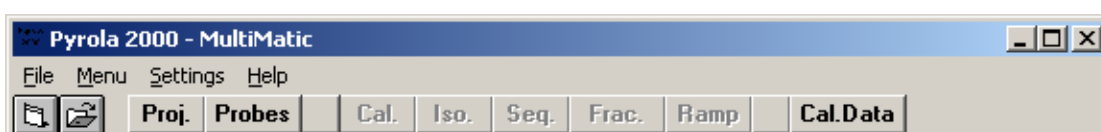

Figure 4-1. Main application toolbar.
2. Press the Probes button in the main application toolbar in order to open the Probes window, see Figure 4-1.
2. Press the Probes button in the main application toolbar in order to open the Probes window, see Figure 4-1. Information of the different calibration files is presented.
It is possible to check the current calibration data by pressing 'Cal. Data' in the main application toolbar, see Figure 4-1.
2. Press the Probes button in the main application toolbar in order to open the Probes window, see Figure 4-1. Information of the different probe files is presented.
1. Press the Probes button in the main application toolbar in order to open the Probes window, see Figure 4-1. Information of the different probe files is presented.
1. Press the 'Proj.' button in the main application toolbar to open the projects window, see Figure 4-1. All projects are shown together with some information, one at each line.